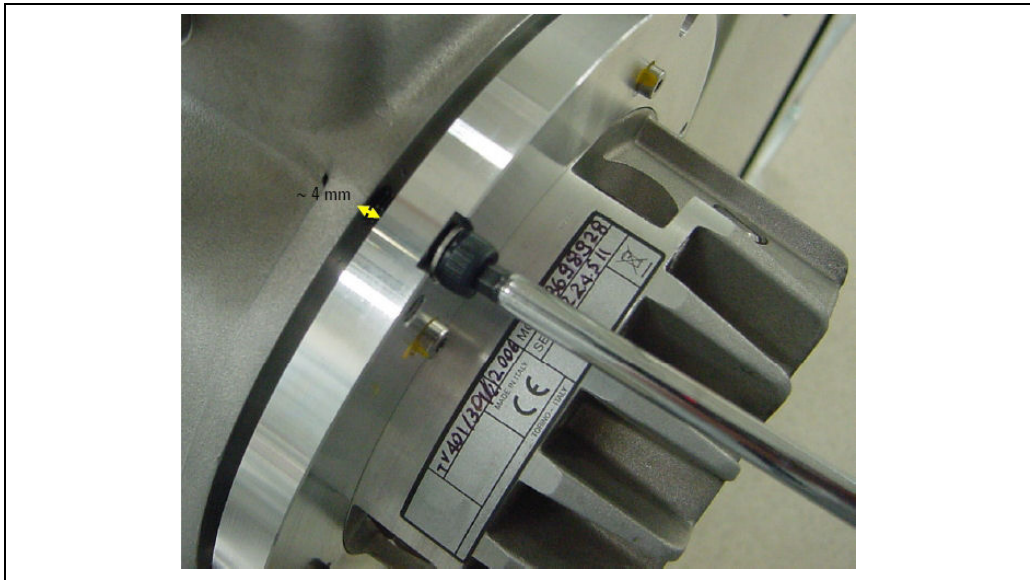

Figure 36 Screw Engagement.
2. When the axial distance between the pump flange and chamber flange is about 4 mm, engage 6 sphere-screws with washers (RED CIRCLES in Fig. 2) in the 6 outer flange threaded holes (Fig. 36).